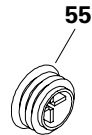

Fig. B2.03
Plugs (55) for closing unused tie holes. (Fig. B2.03)